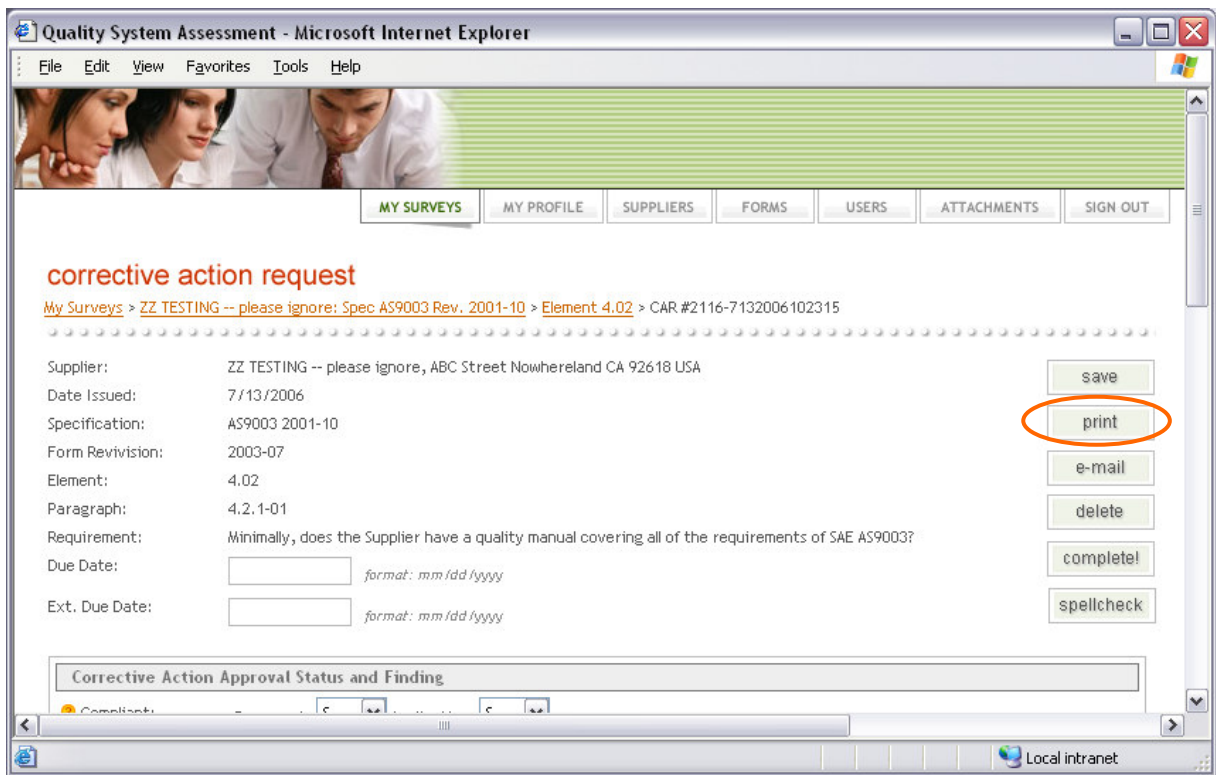

Figure 41 – Print CAR
- Click on the associated “download” button  of that survey (as shown in figure 41).